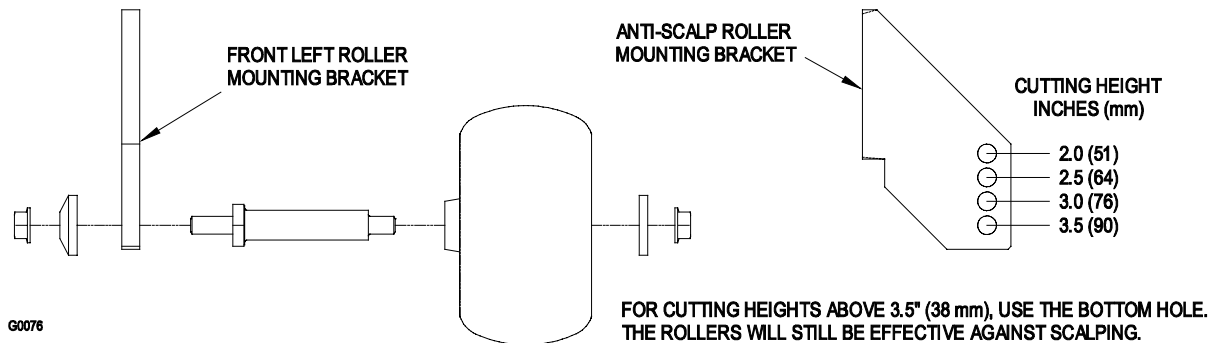
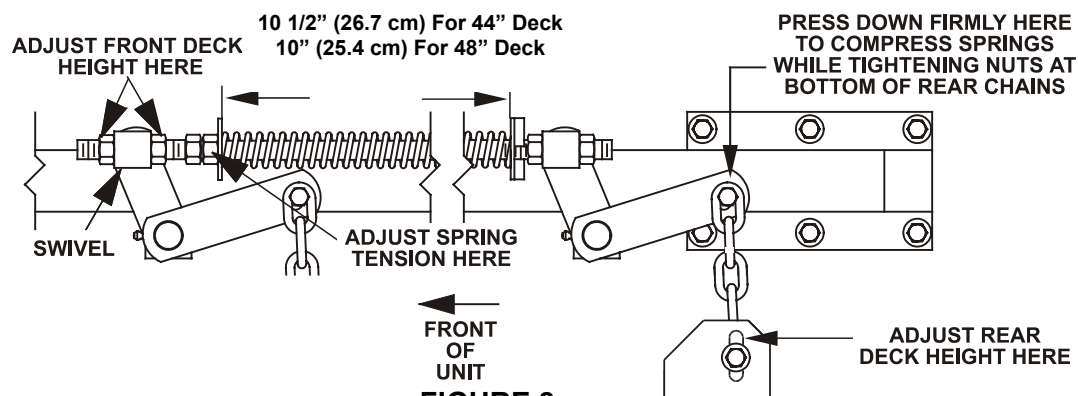

FIGURE 7
FIGURE 8
- g) Adjust anti-scalp rollers for Normal Operating Conditions. Stop engine, wait for all moving parts to stop, and remove key. Place rollers in one of the positions shown in Figure 7. Rollers will maintain 3/4 in. (19 mm) clearance to the ground to minimize gouging and roller wear or damage.
- c) Check tire pressure of all four (4) tires. If needed, adjust to 13 psi (90 kPa).
- e) Raise the deck to the 4.5" (11.4 cm) height position and take as much force as possible off of the two large deck lift springs by loosening the nuts at the front of each spring. See Figure 8.
- g) Loosen the two (2) bottom chain bolts in slots at the rear of the cutting deck. Loosen four (4) nuts which secure front swivels (two per side), until front chains are loose and front of deck is supported by the 1-1/8" (2.9 cm) block. Do not loosen front chain hardware.
- h) When hardware is loosened, remaining tension in the large support springs will tend to rotate the deck lift handle up, out of the 1 1/2" (3.8 cm) position. Press down on the rear deck support arm (as shown in Figure 7) to firmly return the deck lift handle to the 1 1/2" (3.8 cm) position. **DO NOT** push on deck lift handle. While continuing to press down, take the slack out of the rear chains and tighten hardware at the bottom of the rear chains. Downward pressure may now be released.
- k) Raise deck lift lever to the 4.5" (11.4 cm) cutting height position (also transport position, See Figure 6. Adjust spring compression until proper distance is obtained between the two washers (See Figure 8) by turning the nut at the front of each spring. Lock nuts in position with jam nuts.